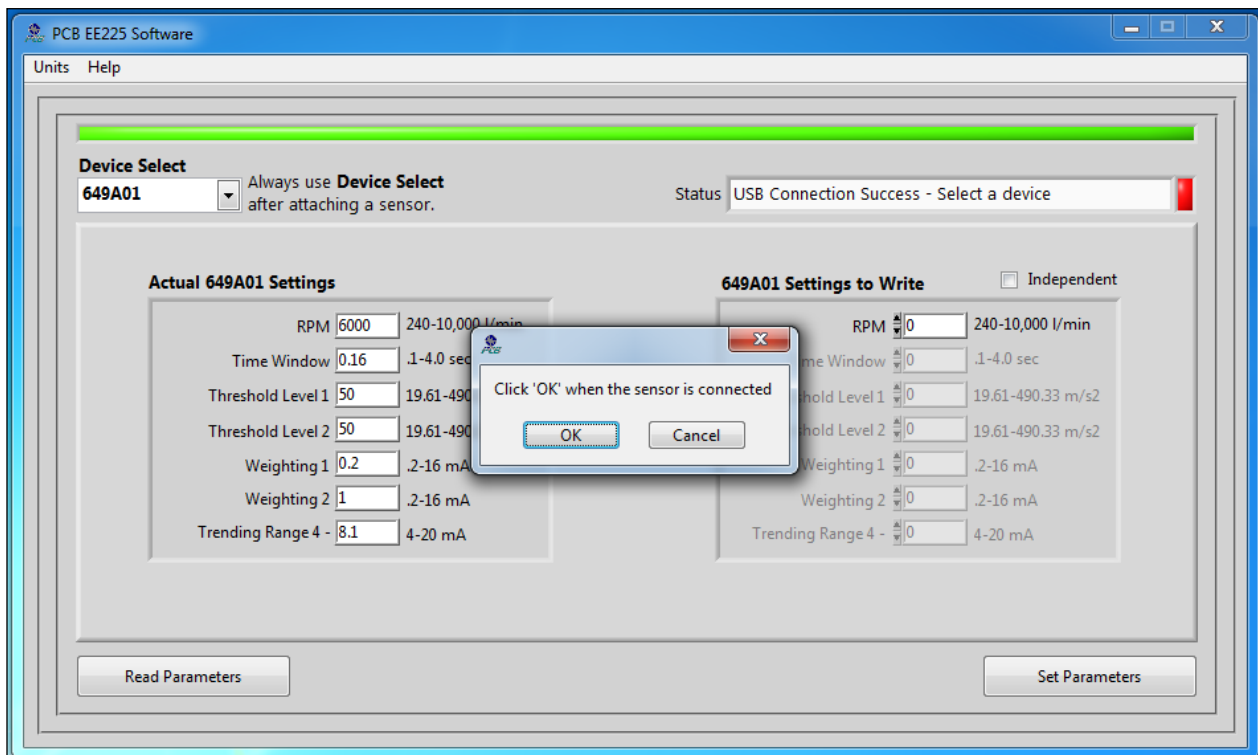

Figure 19 – Sensor Connection Screen
**Example 1:** Connect the RMP to computer with the USB programmer cable. Run the program. Be sure the Independent box is NOT checked and type 780 in the RPM box. Note that all of the other parameters are set automatically. Click Set Parameters to program the RMP with these settings. The RMP will be programmed, the status read, and the screen in Figure 19 displayed.